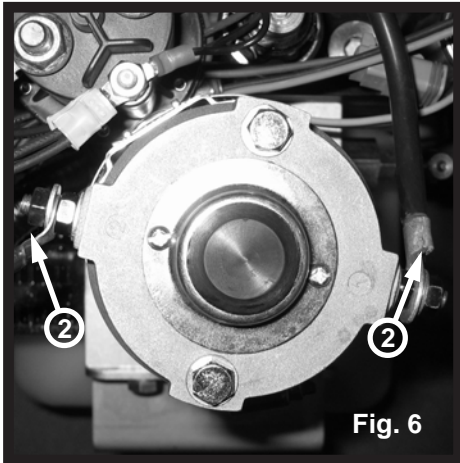

Fig. 6
1. Remove plastic cap. (See Fig. 6).